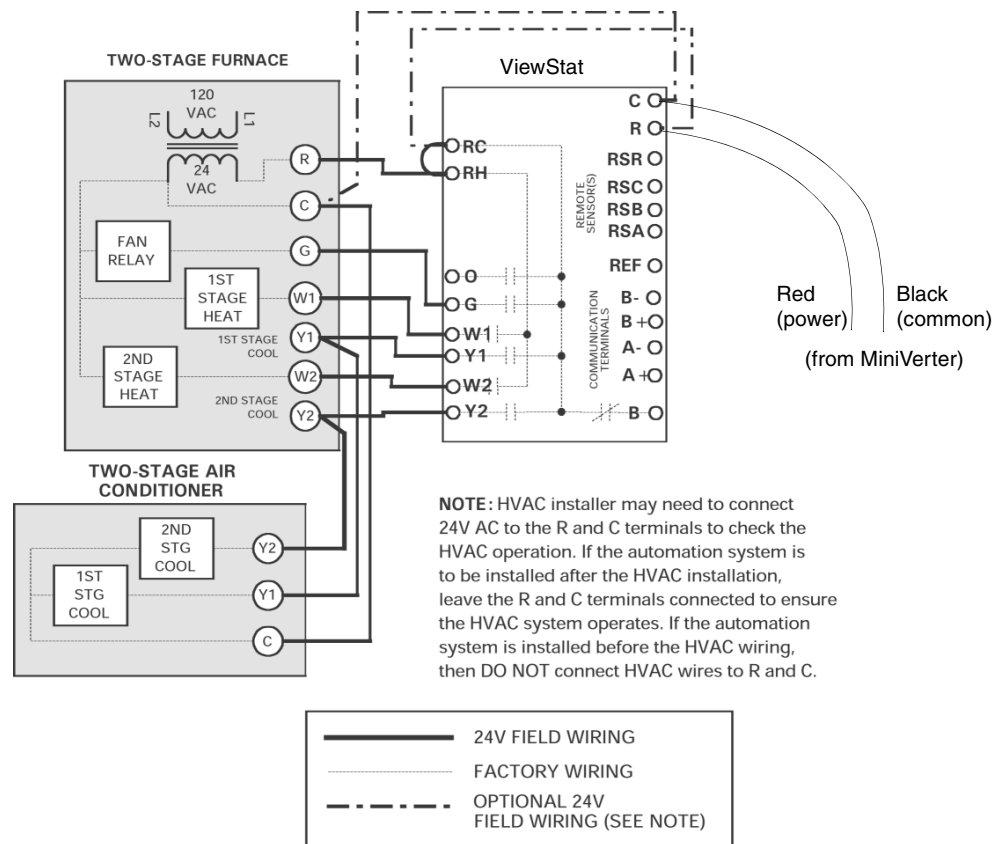

FIG. 19 Two-stage furnace and two-stage AC configuration
• Two Stage Furnace & Two Stage AC	Refer to FIG. 19 on page 27